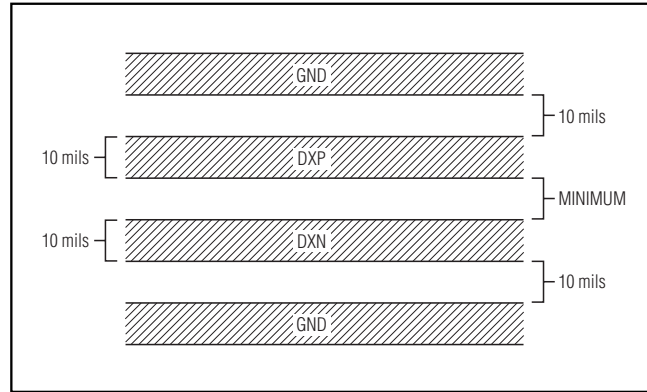

Figure 5. Recommended DXP-DXN PC Board Traces
- 3) Route the DXP and DXN traces in parallel and in close proximity to each other. Each parallel pair of traces should go to a remote diode. Route these traces away from any higher voltage traces, such as +12VDC. Leakage currents from PC board contamination must be dealt with carefully since a 20M Ω leakage path from DXP to ground causes about +1°C error. If high-voltage traces are unavoidable, connect guard traces to GND on either side of the DXP-DXN traces (Figure 5).